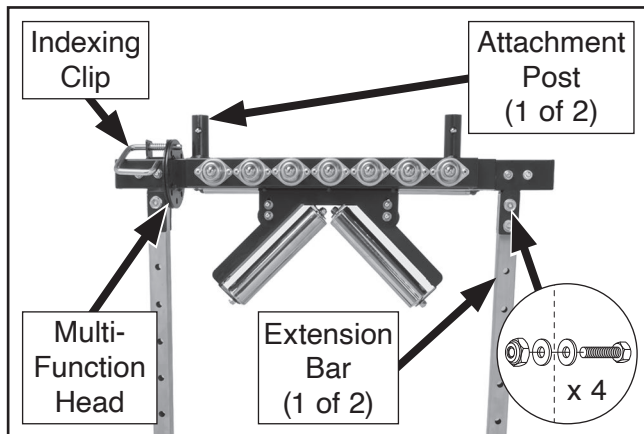

Figure 7. Extension bars (1 of 2) attached to multi-function head.
4. Attach (2) extension bars to multi-function head with (4) M8-1.25 x 40 hex bolts, (8) 8mm flat washers, and (4) M8-1.25 lock nuts (see **Figure 7**).
5. Pull indexing clip on multi-function head and rotate head so attachment posts are facing upward (see **Figure 7**).